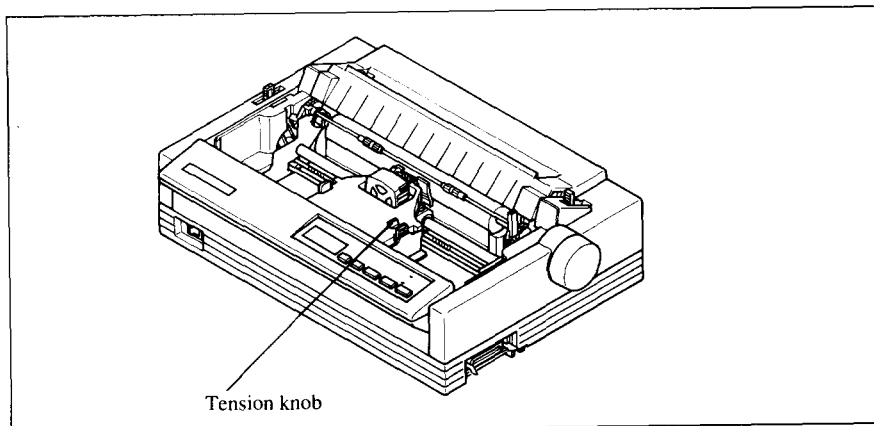

Figure 2-8. Make sure that the ribbon is positioned correctly.
3. Make sure that the ribbon is positioned between the print head and the print head shield as shown in Figure 2-8.